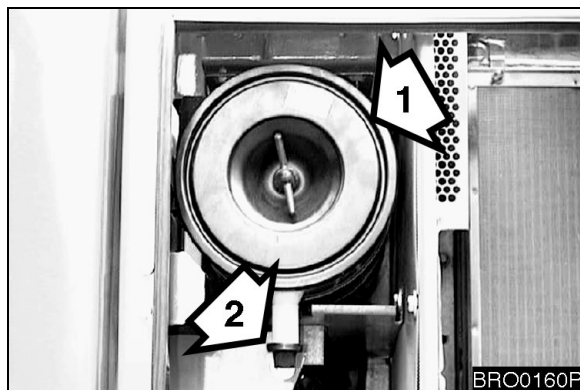

Figure 43
1. Locate the air filter assembly. Remove access cover (1, Figure 43) and outer filter from air filter assembly.
2. Remove and clean rubber evacuator valve (2, Figure 43) from bottom of air cleaner housing. Inspect seal lips for wear or damage. Replace valve if necessary.